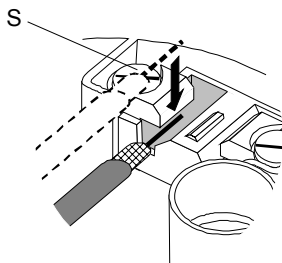

Fig.: 4
4. Loosen the contact screws S far enough for putting-in the centre conductor between white and black plastic part (Fig. 4).